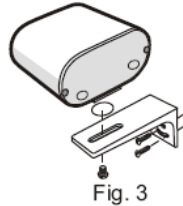

Fig. 3
- 6.) Install the infrared sensor/transmitter mounting bracket(s) (refer to Fig. 3 & 4).
- 8.) Secure the bracket using the bolt provided (refer to Fig. 3).